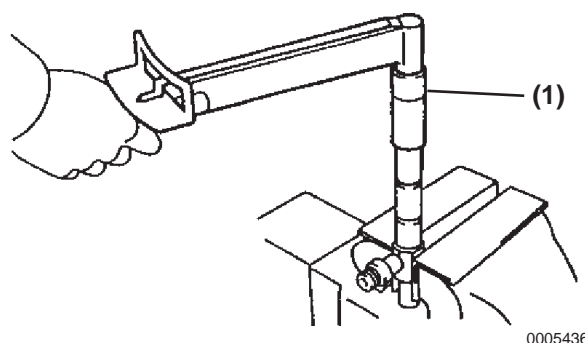

Figure 6-38
2. Tighten the nozzle holder retaining nut using a 14 mm socket (**Figure 6-38, (1)**) torque to: 300 kgf·cm, 29.42 N·m (22 lb·ft). **NOTICE:** NEVER tighten excessively. Otherwise, deformation, adhesion or other defects may occur.